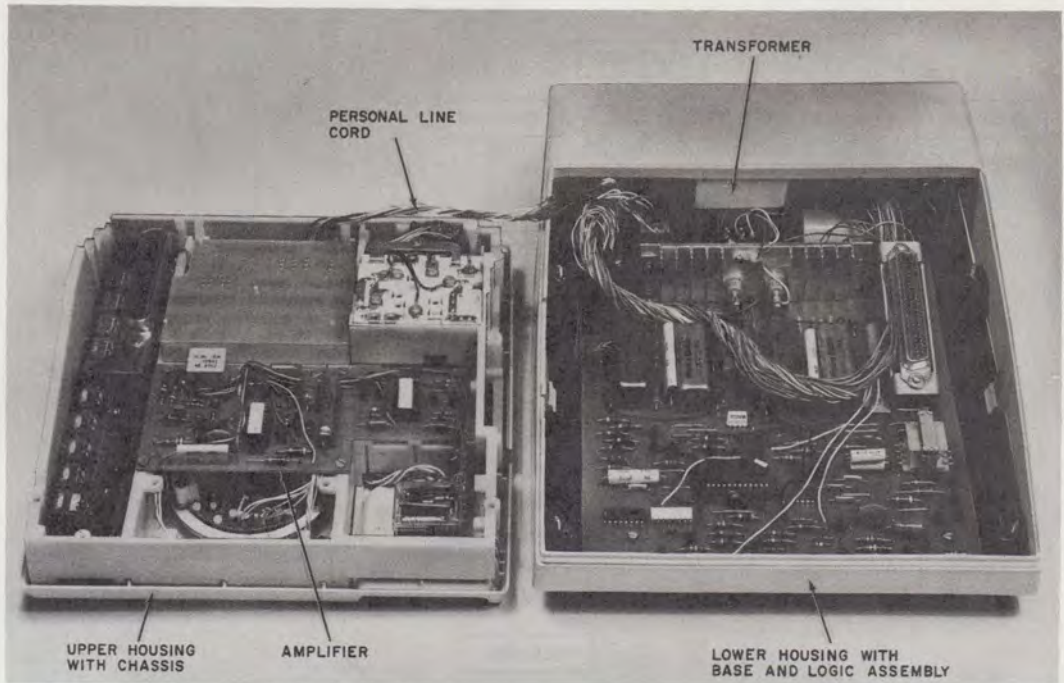

Fig. 6—Primary Set Disassembled
2.06 The internal arrangement of the telephones is based on the use of a molded plastic chassis to which the components of the set are attached and an electrical interconnect field into which the components are plugged (Fig. 5). The interconnect field also contains positions for plugging in optional features and switches A through H for adapting the set to options. Outside connections are made by way of the set mounting cord or separate cords for such optional features as personal lines, 4A speakerphone, and repertory dialing. In primary sets (Fig. 6), the mounting cord plugs into a wiring harness which distributes leads to the line key and the control logic board. In the other desk-type sets, the mounting cord plugs directly into the line key. The system connector cable is intended to be plugged directly into the wall sets without the use of mounting cords, which are not supplied with wall sets.
2.07 Mounted on the base of each primary set is a logic board containing control and power circuitry for two CO/PBX lines and one intercom path, and a transformer for supplying ac power to the logic board (Fig. 6). Up to seven satellite telephones can derive their power from one primary set. Each primary set contains a polarity guard circuit which prevents battery reversals on the CO/PBX lines from interfering with TOUCH-TONE dial operation and multiline conferencing.